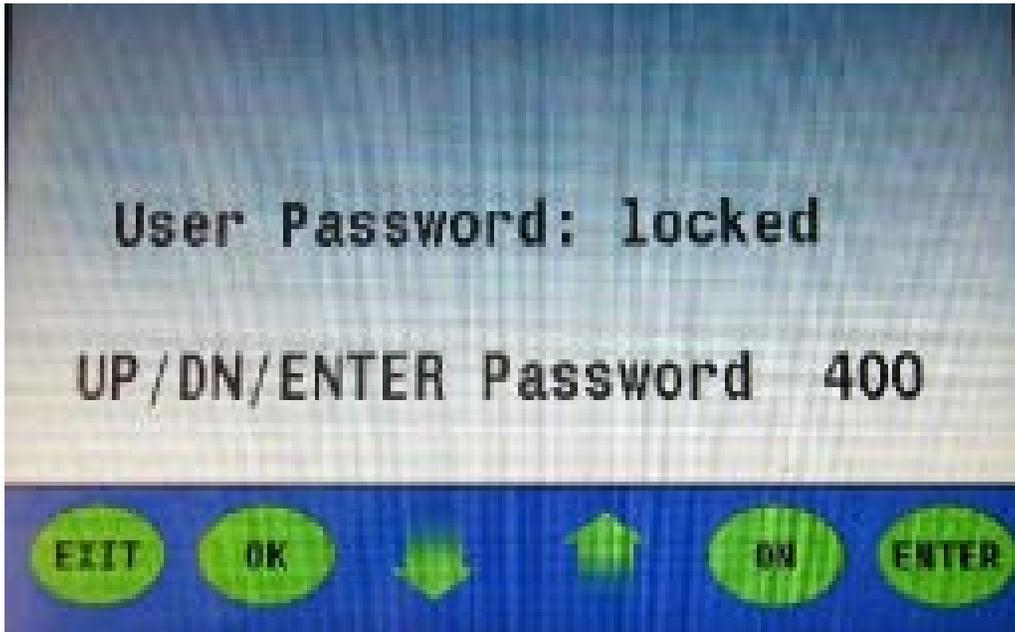

Figure 11
2. Using the **up arrow**, press to assign the first number in the password sequence (to decrease this number, use the **down arrow (figure 11)**).